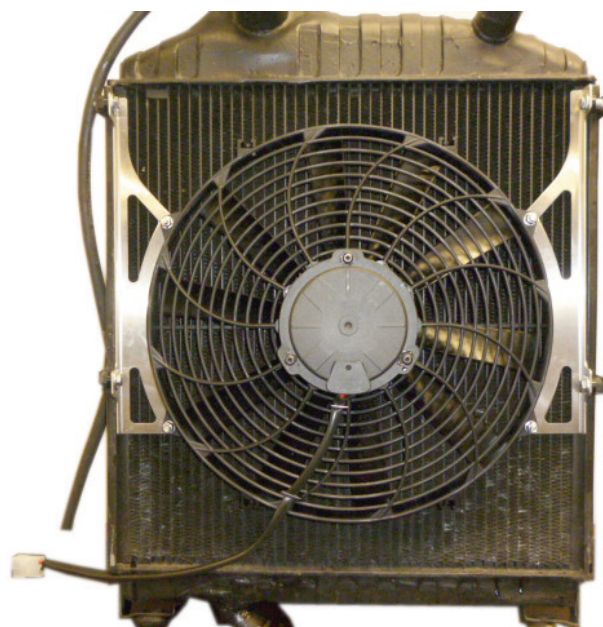
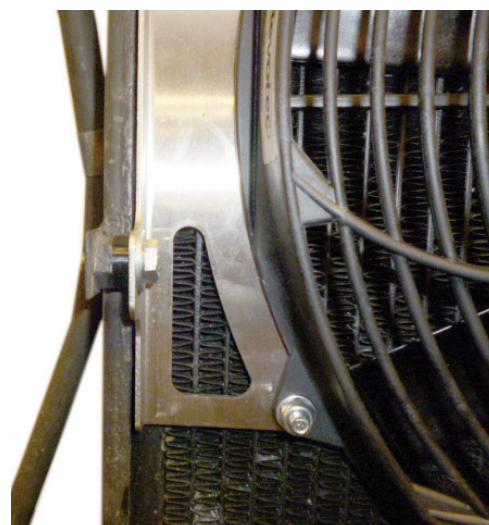

Fig. 1
Fig. 2
3. Assemble the Fan onto the 2 brackets placing the four 5mm spacers between the fan and brackets. as shown in **Fig 1**. Lay the cooling fan and brackets assembly on the radiator and fix using the original cowl fixing bolts and spacers as shown in **Fig 2**. (Note if the bolt thread extends beyond the lug remove excess to prevent fouling body on re-assembly.)